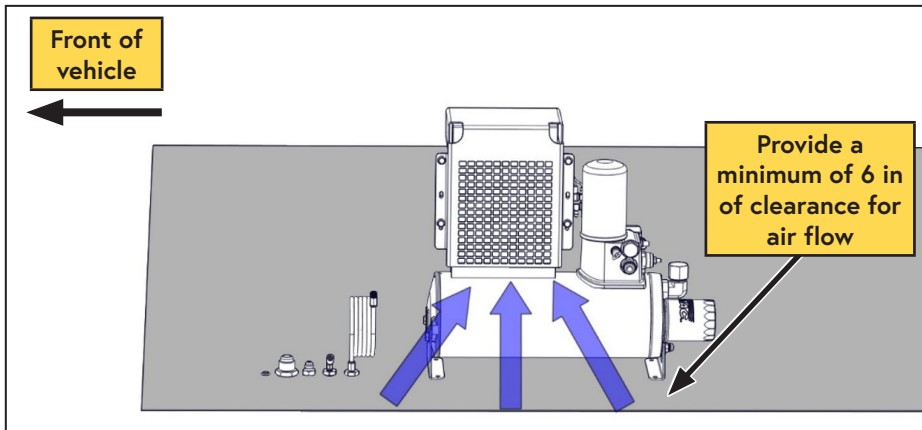

Figure 31 — WHASP ventilation
*A minimum of 6 in of clearance is recommended around the radiator (intake) side of the WHASP Tank to allow fresh, cool air to circulate into the cooler and fan (Figure 31).*
- Connect the 1/4 in PTFE tube to the 1/4 in push-to-connect (oil scavenge) fitting near the coalescing filter (Figure 31).